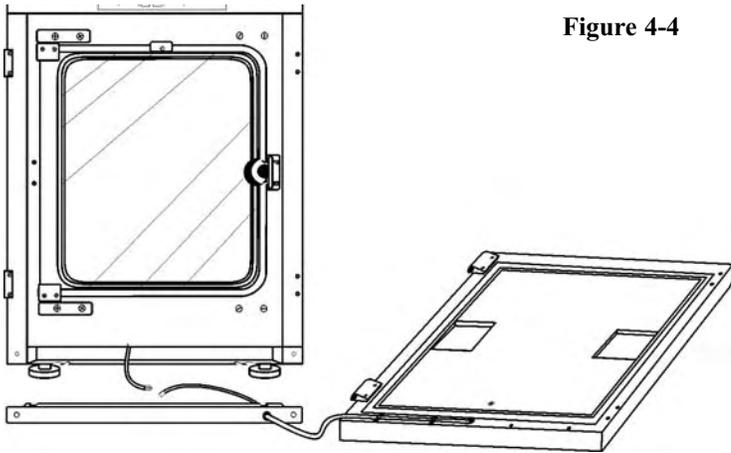

Figure 4-4
- The incubator and door should look similar to Figure 4-4.